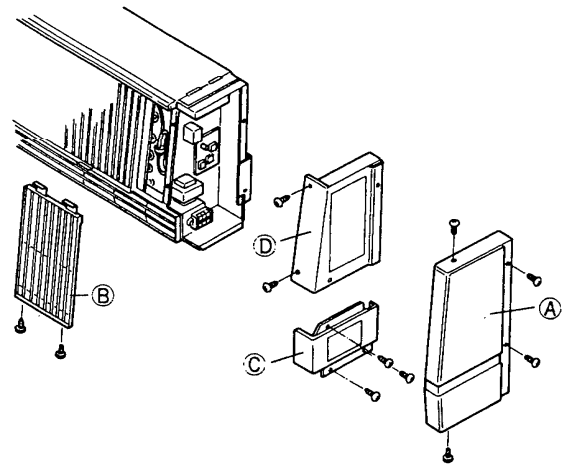

Fig. 1
- 1) Remove the side cover (A) by unfastening four black color screws.
- 2) Remove the front panel (B) by unfastening two black color screws.
- 3) Remove the cover plates (C) and (D) of the electrical component box. Fig. 1